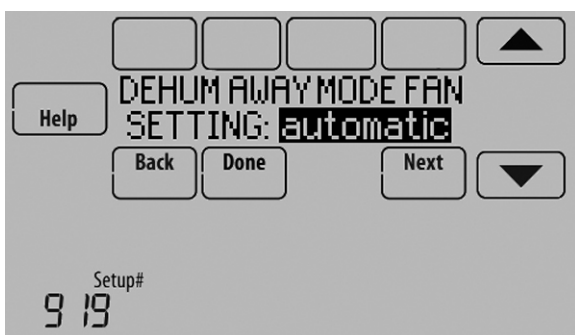

Fig. 204.
2. Set Fan Control settings. See Fig. 204.